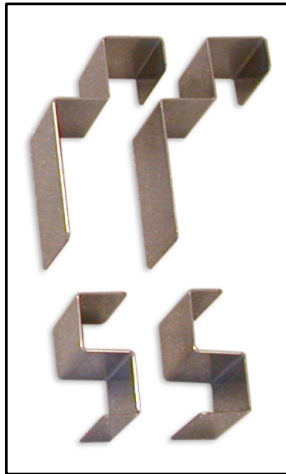

Figure 5, Kettle Cover support brackets
1. Find the four Cover Support Brackets (Figure 5).